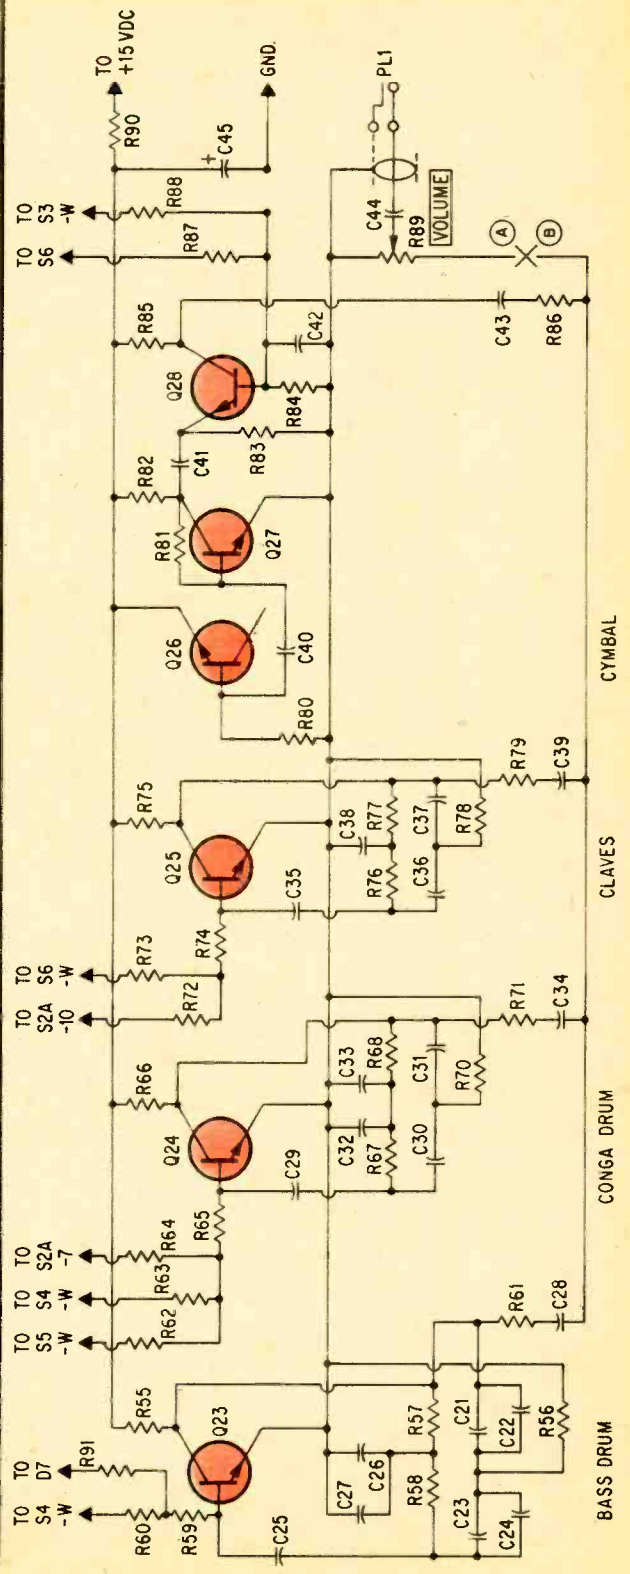
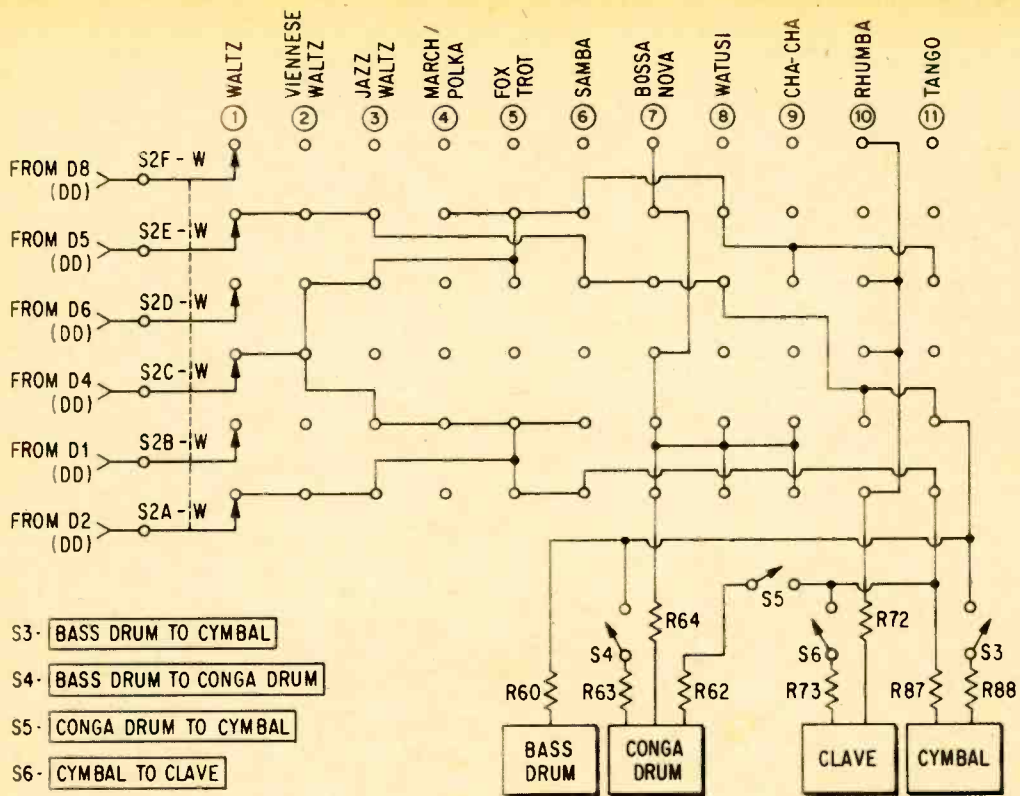

Fig. 2—The schematic of Tempo Generator and Binary Counters (TG/BC) is at top. The schematic of the Percussion Generators (PG) is at the bottom.
Fig. 5—Switching schematic. Keep this handy to double-check your wiring of the rhythm-selector switch (S2).
The system's block diagram is shown in Fig. 1. The schematics are shown in Figs. 2, 3, 5, 8 and 9. The connections between the four sections are indicated on the schematics.
Figure 2 (top) shows the Tempo Generator and Binary Counters (TG/BC). This consists of a free-running multivibrator (Q1, Q2) which generates a continuous train of pulses at a rate of about 80 to 500 pulses-per-minute (not per second). This rate is controlled by tempo potentiometer R5.
The DD is a system of three-input *and* gates. The 14-transistor circuit, which must be built carefully, generates an output for each binary number accumulated in the counter of the TG/BC (Fig. 2). On the eight count (with S1 open) the decoder outputs are activated one at a time and in order from beat 1 to beat 8. Under this condition, beat 1 is the downbeat, and beats 1, 3, 5, and 7 are the basic 4/4 and cut-time (2/4) beats. Beats 2, 4, 6 and 8 are syncopated or off-
of contacts marked *waltz* in Fig. 5.
**Rhythms.** Rotary switch S2 provides the 11 basic rhythms shown in Fig. 5. For the first three—waltz, Viennese waltz and jazz waltz—S1 must be in the 3/4 position. The next eight rhythms are all 4/4—march/polka, fox trot, samba, bossa-nova, watusi, chacha, rumba and tango.
**The Percussion Generators (Fig. 2, bottom).** These are the circuits which produce the actual sounds that you hear. Up to this point, the circuits described simply generate either eight or six beats per measure. These beats are routed in various ways by the switches to produce the percussion sounds and rhythms.
In Fig. 2, Q23, Q24 and Q25 are the drum-sound generators. These are twin-tee phase-
If you would like to expand the project, it is quite easy to do. For example by building more drum generators like those shown in Fig. 2, but using other capacitor values in the phase shift networks, a series of lower or higher-frequency sounds can be obtained. These may sound like snare drums, wood blocks, triangles and cow bells. To add these sounds, more and different switching will be needed. By following the pattern of Fig. 5, extra switching shouldn't be difficult to add.
Fig. 9—Power supply. Complete bridge rectifier (SR1-SR4) is encapsulated part. Four 200 ma, 100 PIV diodes could be used instead. A filter capacitor, C45, is shown in bottom schematic in Fig. 2.